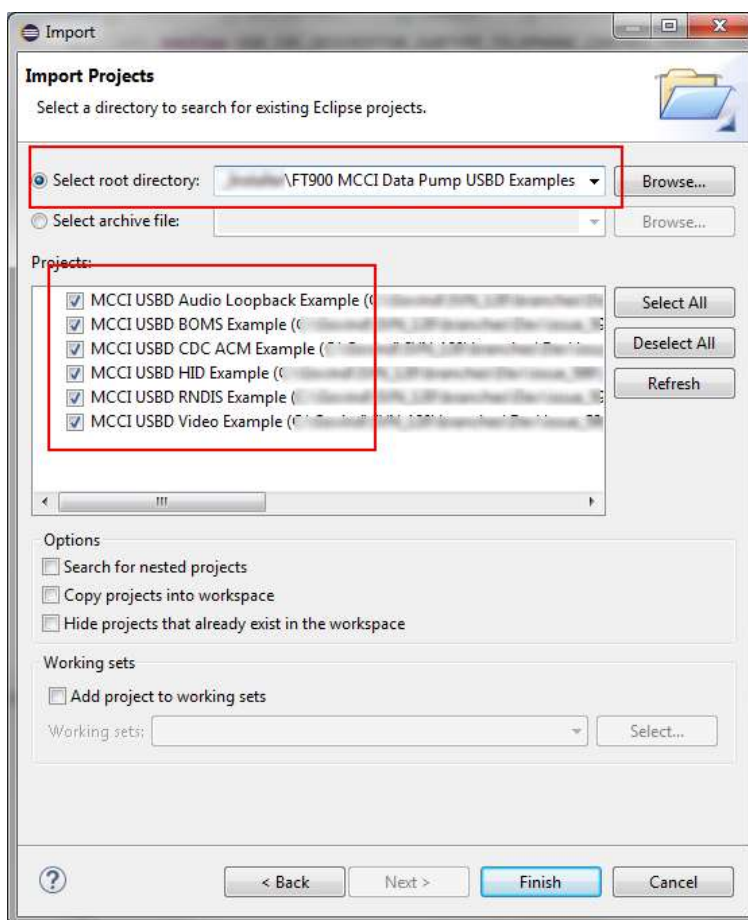

Figure 3 Import all MCCI projects
4. Browse and select the root folder of the examples as shown in Figure 3. This will import all the MCCI projects into the workspace.